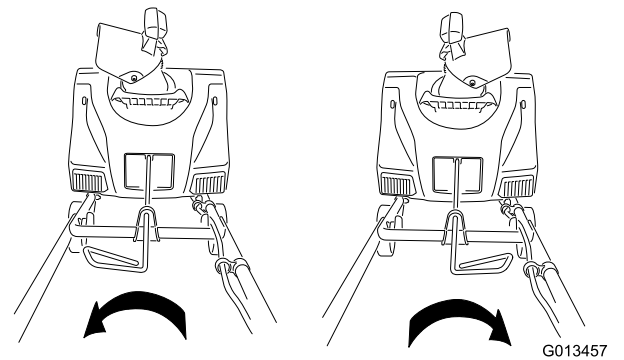
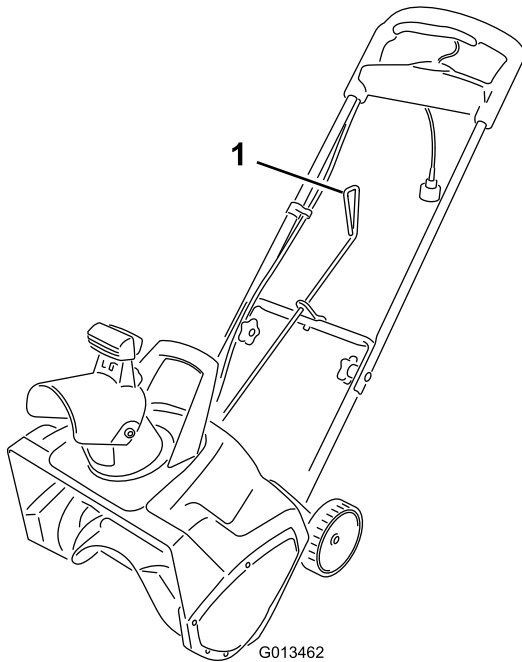

Figure 7
Figure 6
4. Ensure that the handle of the chute control rod points upward (Figure 6), and insert the rod into the keyed hole in the back of the housing.
6. Move the handle on the chute control rod to ensure that it moves in the same direction as the chute (Figure 7).
To adjust the discharge chute, move the handle on the chute control rod in the direction that you wish to direct the snow stream (Figure 6 and Figure 7).